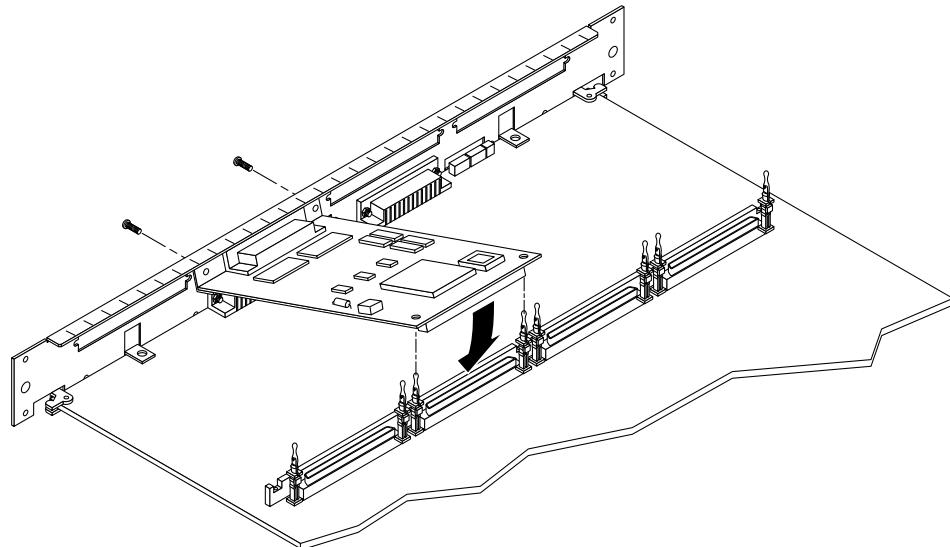

Figure 1-2 Installing the UDWIS/S Host Adapter Card on the Processor Board
5. Slide the card at an angle into the back panel of your processor board as shown in Figure 1-2.